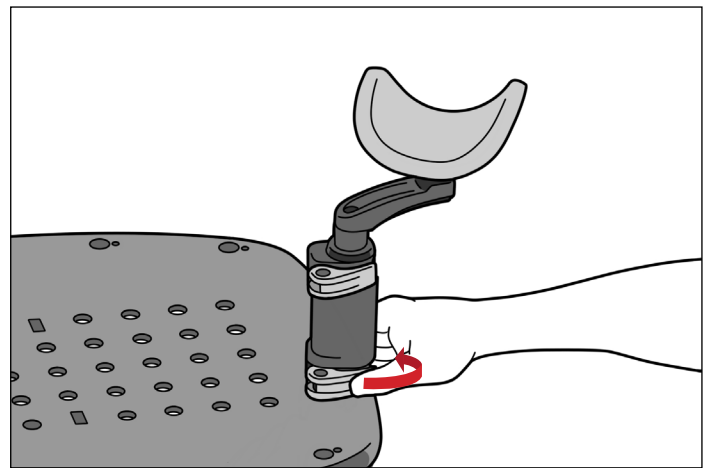

FIG. 16
2. Close lower lever to lock in place. (Fig. 16)